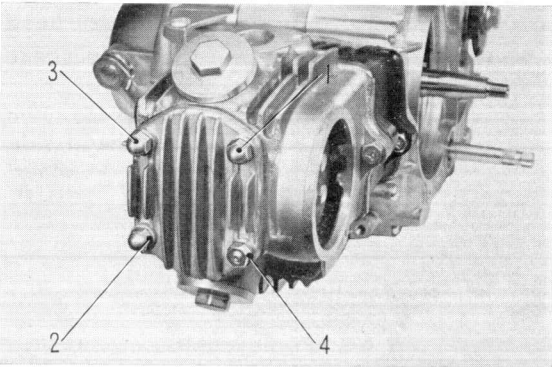

Figure 3-24. Torquing sequence of cylinder head
- (2) When torquing the cylinder head, tighten the nuts in the diagonal sequence to prevent pressure leaks. Refer to Fig. 3.24 for torquing procedure. (Fig. 3-24)
- (3) In the same procedure as in the disassembly, position the woodruff keyway in the crankshaft, and the "O" mark on the cam sprocket in line with the piston and install.
- (4) Assemble the right and left cylinder head side cover.